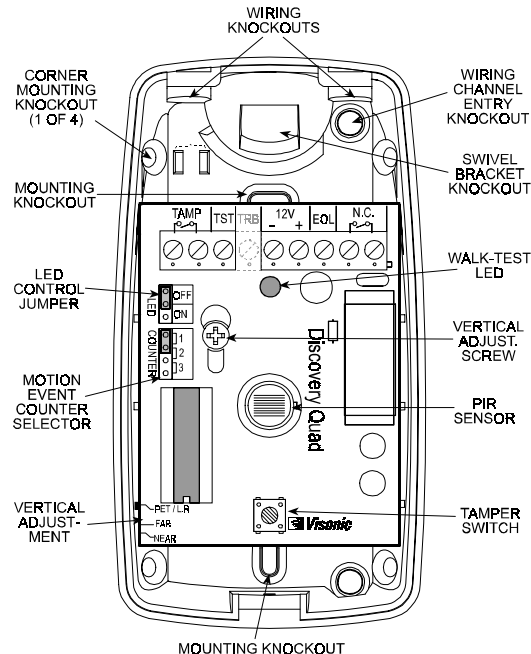
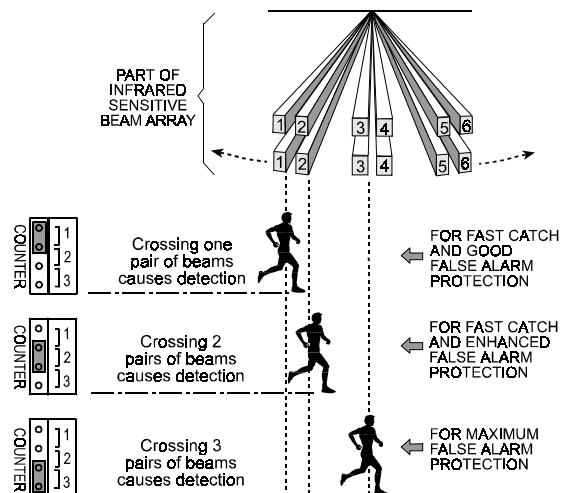

Figure 5. Inside View
Figure 14. Motion Event Counter Setting Options
- D. Refer to Figure 5 and punch out the mounting knockouts at the rear wall of the base (for surface mounting) or mounting knockouts at the angled sides of the base (for corner mounting).
- E. Punch out any one of the wiring knockouts shown in Figure 5.
The location of the motion event jumper is shown in Figure 5. Refer to Figure 14 below and mount the jumper as desired.